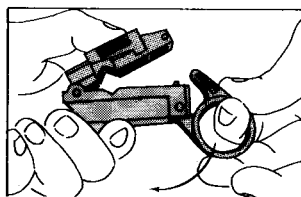

FIGURE 3
B. OPEN TOOL by rotating locking latch downward. (Fig. 3)